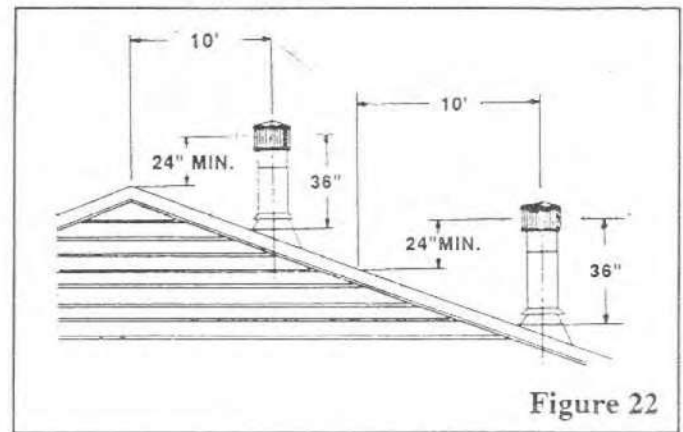

Figure 22
**10 Foot Rule** - If chimney is within 10 feet of the roof peak, adjacent wall or building, the top should extend a minimum of 2 feet above the roof peak. When further than 10 feet from the roof peak, the tip should extend 2 feet higher than the closest point away horizontally as shown in Figure 22.
**IMPORTANT:** If an exposed portion of chimney is greater than five (5) feet above the roof line, use support wires to keep the chimney secure. The support wires may be attached to the outer pipe of the chimney with screws, provided the screws are not long enough to penetrate the inner flue pipe.